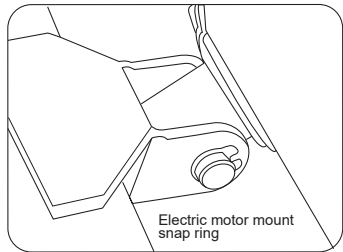

Figure 1
2. Disconnect the electric motor cable from the motor control unit. Remove the snap rings and the retaining bolts that hold the electric motor to the frame assembly. (See Figure 1 and 2)